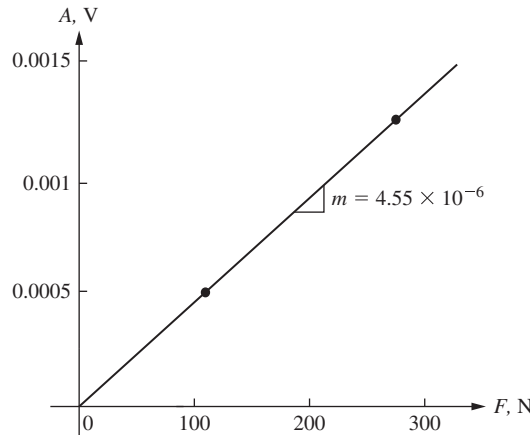

Figure 1.18 Plot of the RMS amplitude versus the applied muscle force.
- The plot of the RMS amplitude as a function of the applied muscle force is shown in Fig. 1.18.